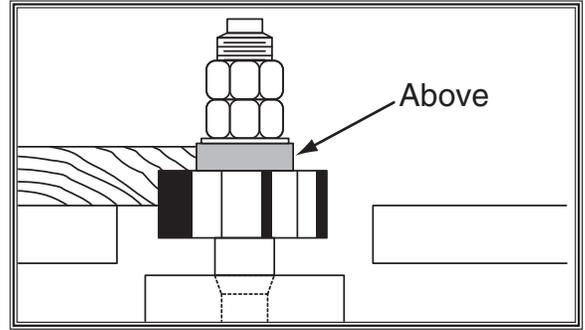

Figure 24. Rub collar mounted above cutter.
- **ABOVE THE CUTTER** as shown in **Figure 24**. This setup is the safest and produces the most consistent results.